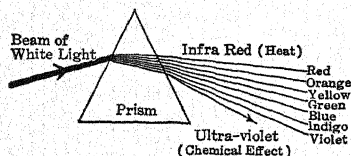

FIG. 81. — A prism separates white light into its seven colors.
**104. Ultra-violet Rays Destroy Bacteria.** If the sun's rays are passed through a prism and allowed to fall upon a screen, we can see a band of colors. (See Fig. 81.) A thermometer placed just beyond the red shows that heat rays are present, although we cannot see them. A photographic plate placed just beyond the violet is darkened by rays which are invisible, but very active chemically.